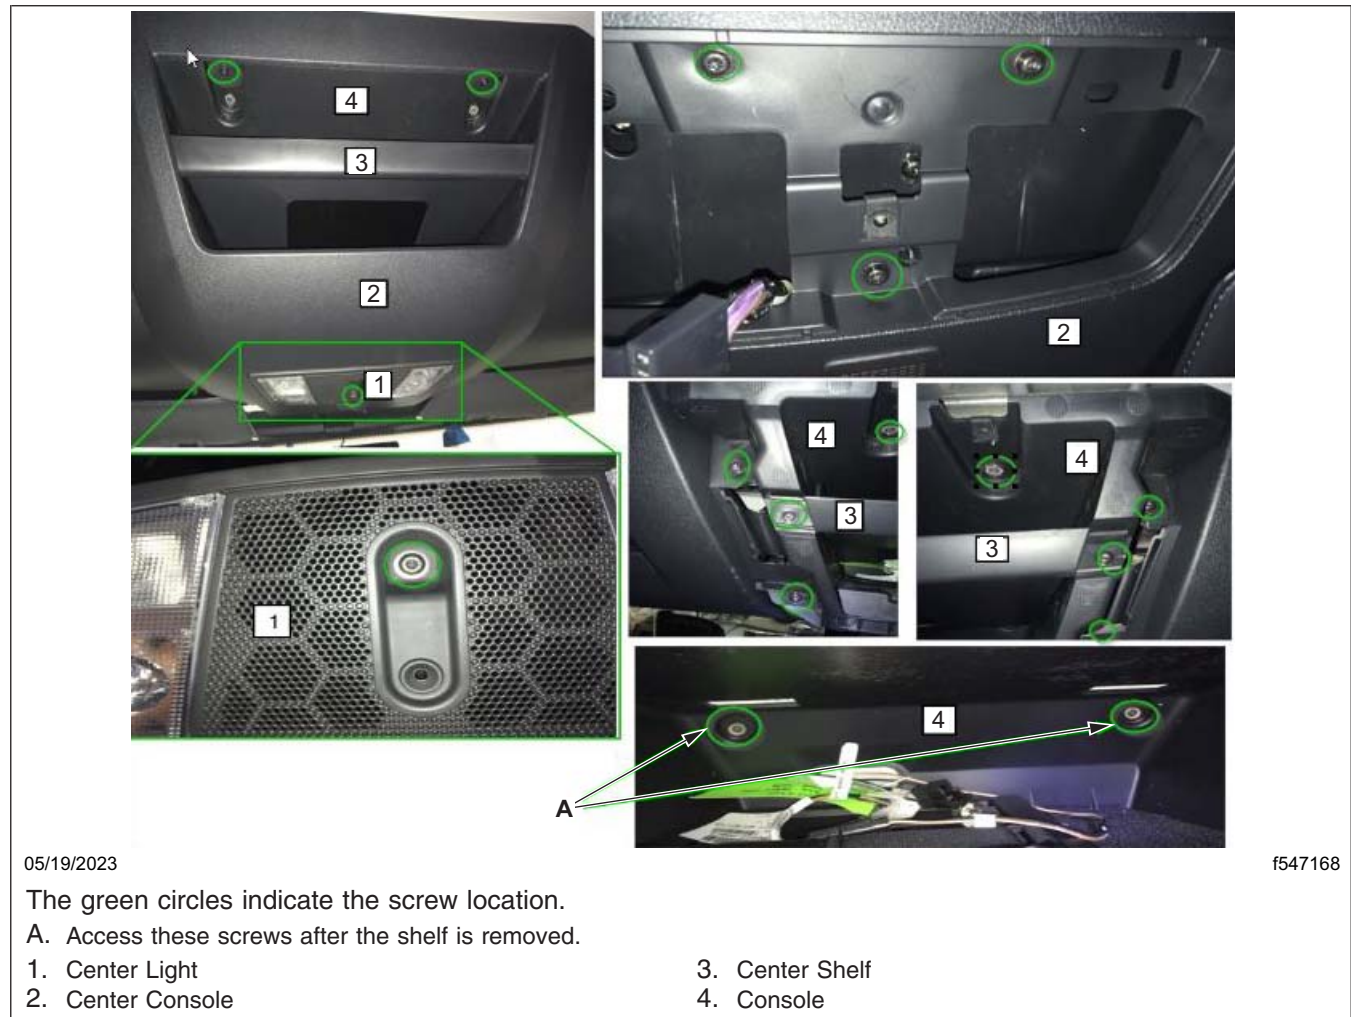
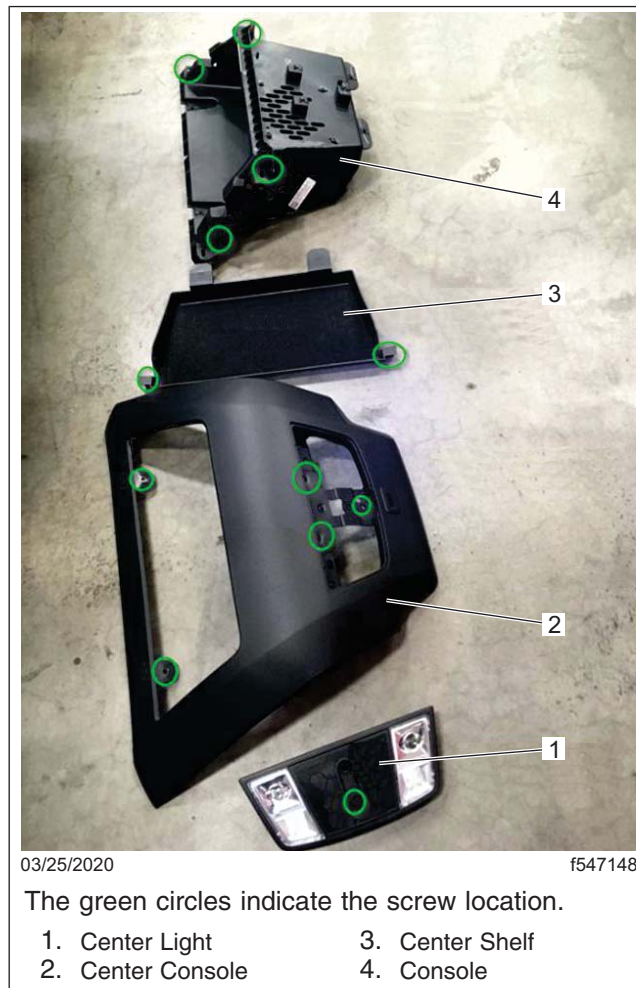

Fig. 14, Center Overhead Console Part Location
Fig. 15, Center Overhead Console Parts Removed
4. Remove the eighteen T25 screws in the order shown in **Fig. 14**. See **Fig. 15** for reference of the parts removed.